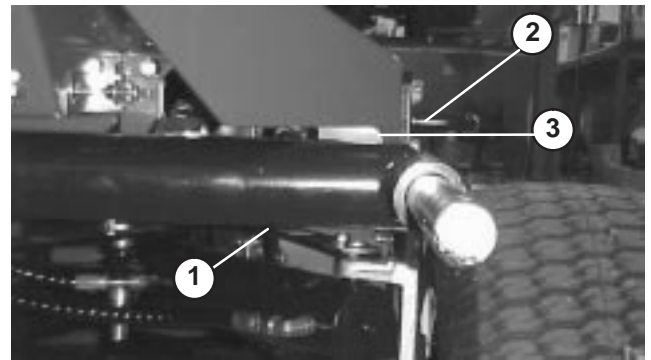
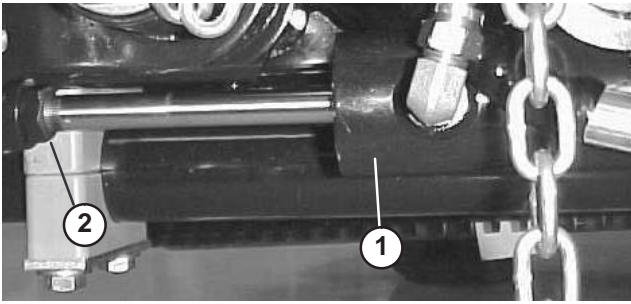
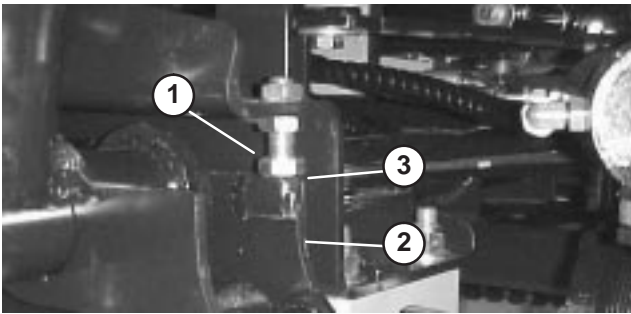

Figure 24
Figure 25
Figure 26
1. Start engine, raise lift arms and check to make sure clearance between each lift arm and floor plate bracket is .18" – .32" (Fig. 24). If clearance is not in this range, back off stop bolts (Fig. 26) and adjust cylinder to attain clearance. To adjust cylinder, back off the jam nut on the cylinder (Fig. 25), remove pin from rod end and rotate clevis. Install pin and check clearance. Repeat procedure if required. Tighten clevis jam nut.
2. Check to make sure clearance between each lift arm and stop bolt is .005” – .040” (Fig. 26). If clearance is not in this range, adjust stop bolts to attain clearance.